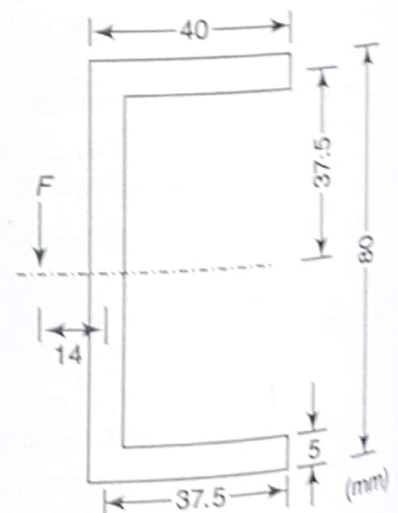

Fig. 6.34
**Given** A channel section as shown in Fig. 6.34
Refer Fig. 6.34,